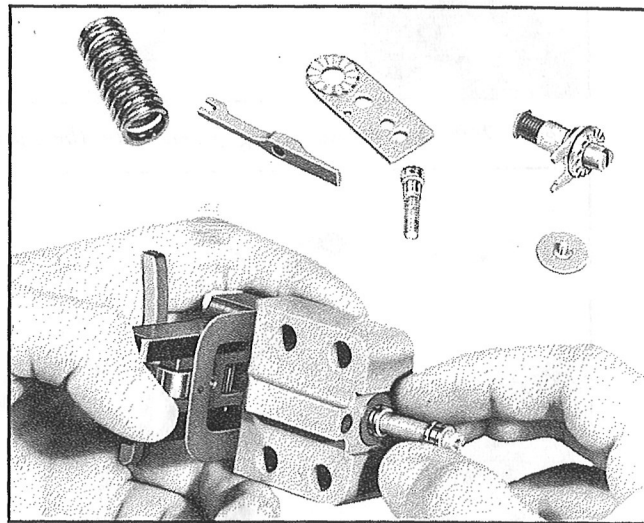

Figure 238—Installation of Governor Piston
*Step 6.*—Insert the governor piston into the cylinder, entering the piston in the upper side of the governor housing so that the slotted end of the piston contacts the piston stop beneath. See Figure 238.